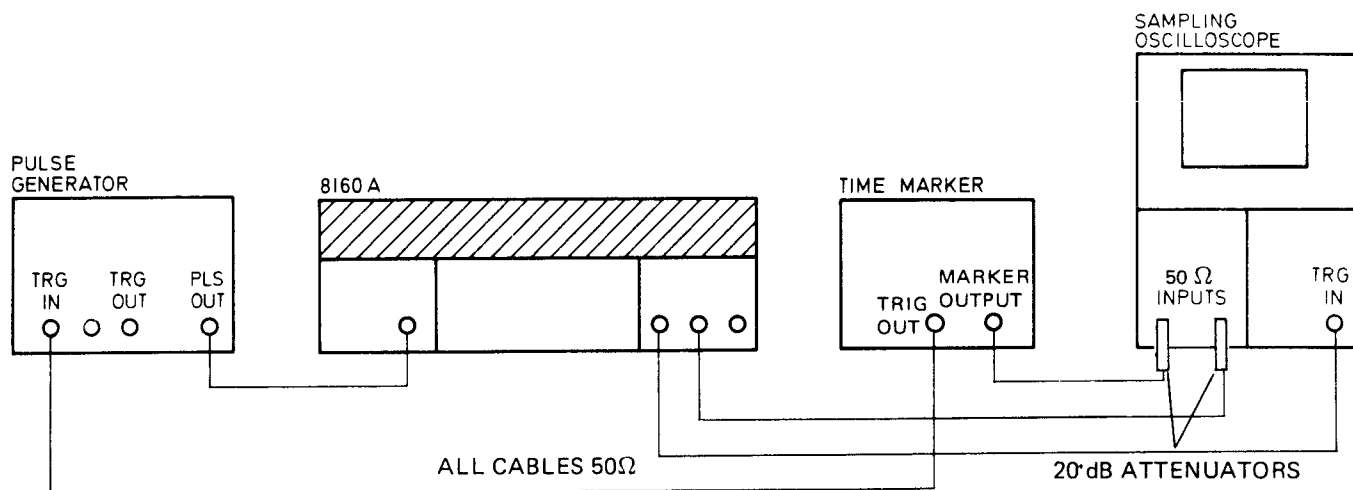

Figure 4-14. Transition Time – Fast Test Set-up
1. Connect equipment as shown in fig. 4-14.